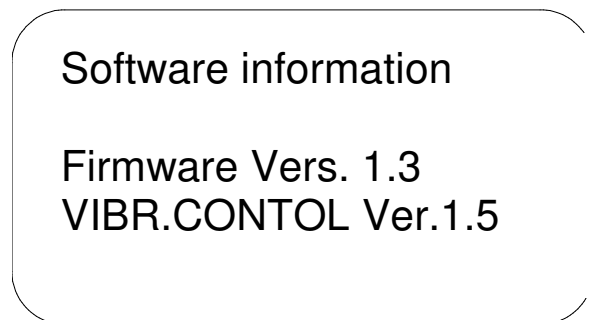

Fig. 37
- Then open this submenu via the "Enter" button. The version of the current software is shown on the display (fig. 37).